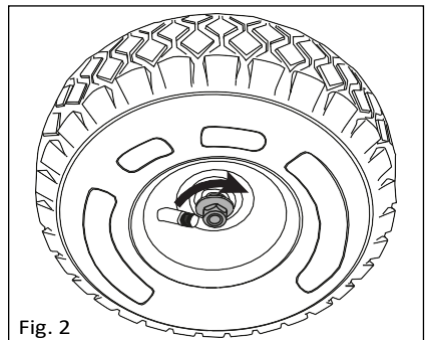

Fig. 2
2. To secure, place the wheel washer and nut onto the axle. Tighten the nut (fig. 2).
**Note:** Only assemble one wheel (12) at this stage.